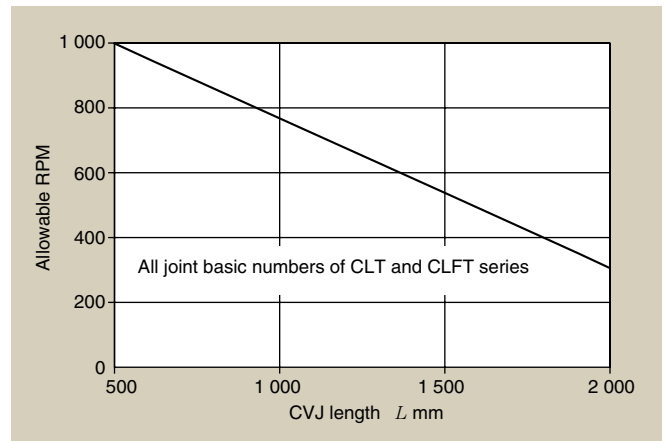

Fig. 14 Allowable RPM of shaft
3. For the allowable RPM for the CLT and CLFT series, refer to the allowable RPM data in **Fig. 14**.